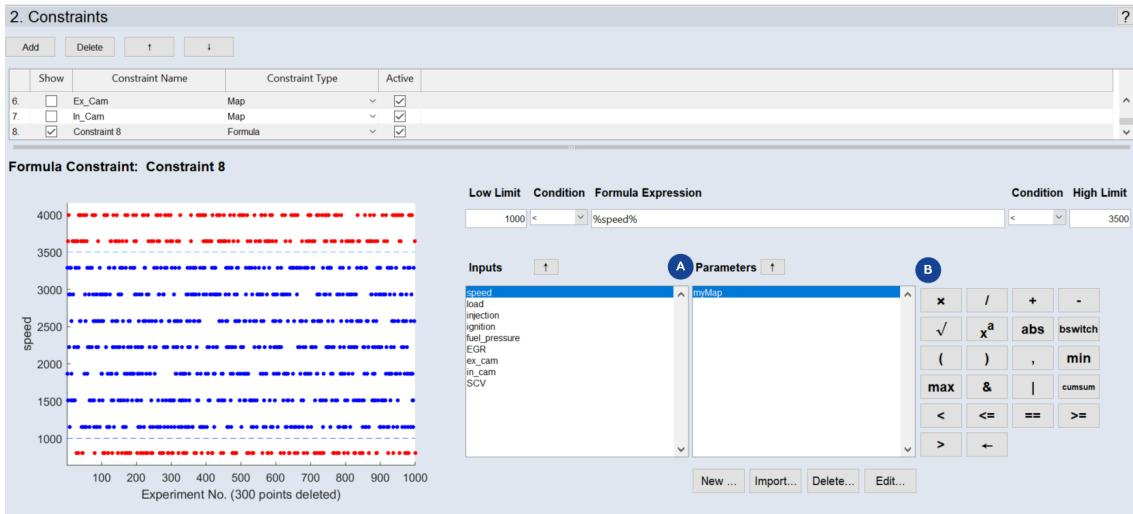

Fig. 7-3: ASCMO-STATIC ExpeDes Step 2: Constraints (Type "Formula")
Use the **Formula Expression** field to enter the formula. Any MATLAB relational expression can be entered here. If the expression is violated, the corresponding measurement points are rejected. Variables can be either inputs or curves/maps (1D or 2D) that are selected and managed in the **Inputs** area and the **Parameters** area. Operators are entered directly or via the button area (**B** in Fig. 7-3: above).
- In the **Parameters** list of a formula constraint (region **A** Fig. 7-3: on page 196), click **New**.
- In the **Parameters** list of a formula constraint (region **A** Fig. 7-3: on page 196), click **Edit**.